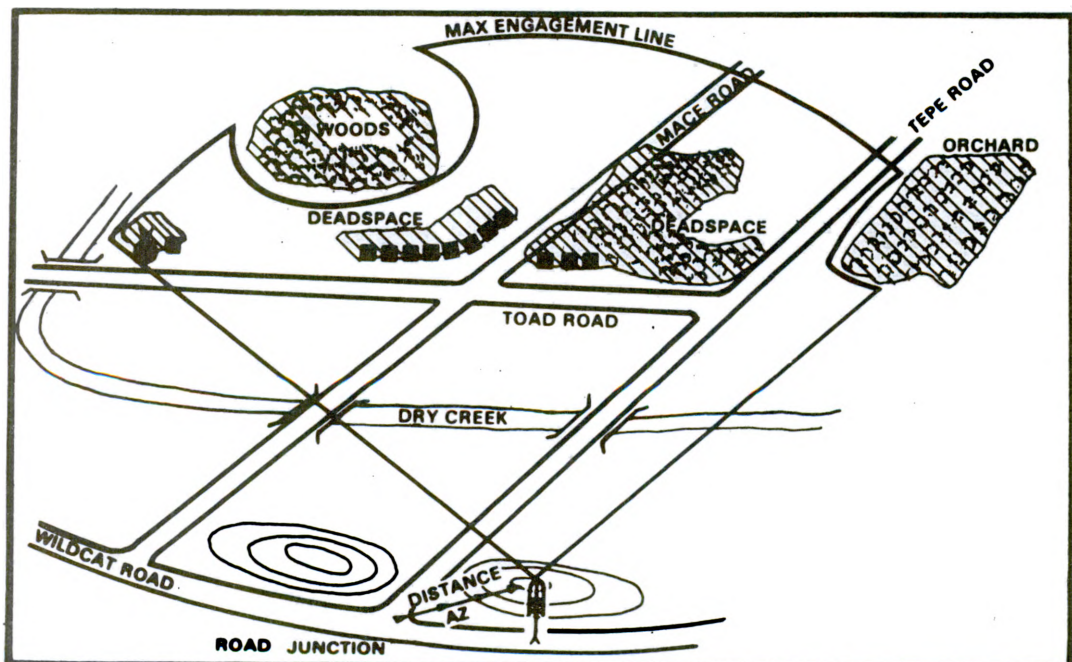

Figure 4
(4) Draw in the deadspace in your sector. Be sure and indicate by an enclosed line, containing parallel lines, those areas you cannot hit. You can also write the word "DEADSPACE" (fig. 4).